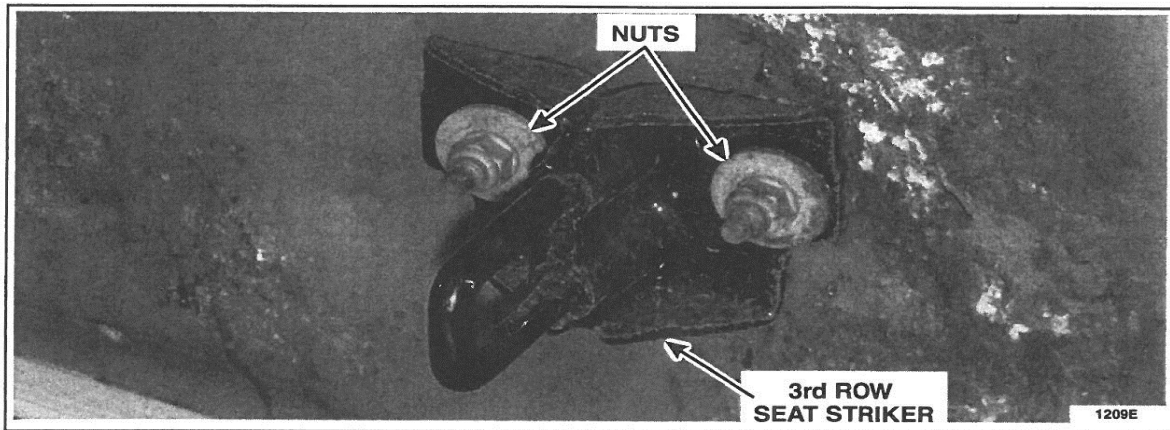

FIGURE 5
13. Note the orientation of the RH and LH 3rd row seat strikers. The top of the strikers are marked with "UP" for installation reference. Remove the two nuts and the 3rd row seat strikers from the RH and LH wheel wells. See Figure 5.